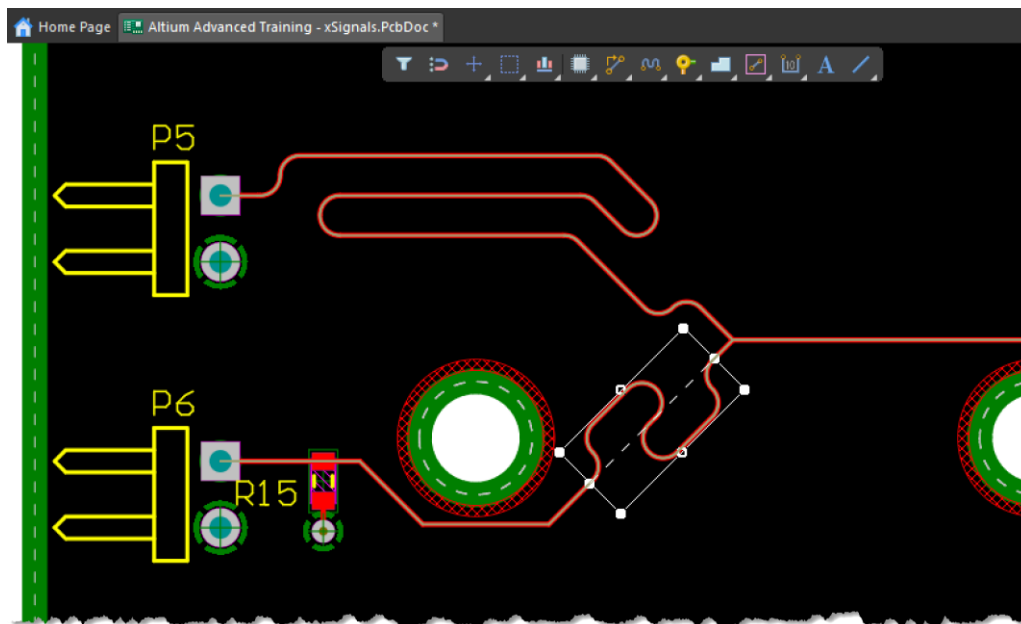

Figure 24. First Trombone for Signal Path P6
67. Use the Length Tuning command again to tune the signal path for P6, to the right of the board cutout as shown in Figure 24. The Signal Path will be still too short, but we will change that with the next steps.